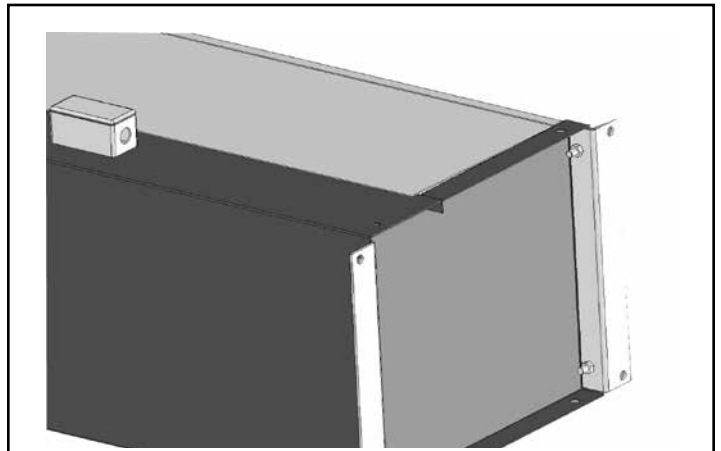

FIGURE 5 - Floor Mounting Brackets
- C. To vertically mount a IDC12/IDC14 Series unit using optional Floor Mounting Brackets, bolt brackets on the inside of the end plate with (4) 1/2 - 13 bolts as shown in **Figure 5.**